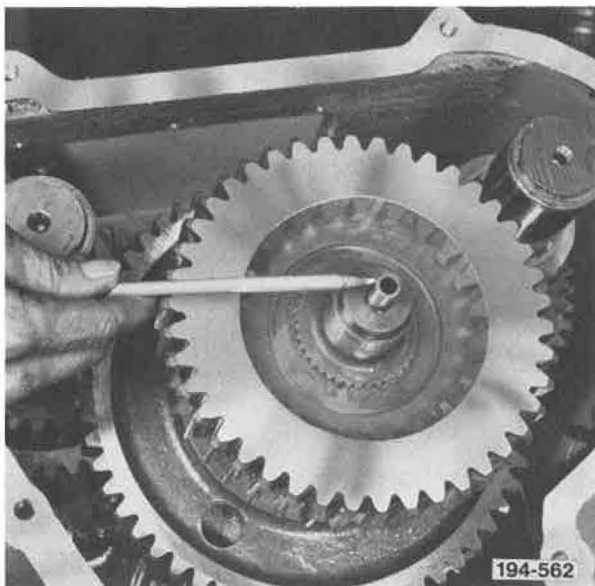

Figure 5-696. Front Mainshaft Oil Tube
1. With front case in a vertical position, remove front mainshaft oil tube, only if necessary to replace it. Run a tap into the tube, and then insert a capscrew into the threads cut by the tap. The oil tube can then be removed by pulling and twisting the capscrew. See **Figure 5-696**.